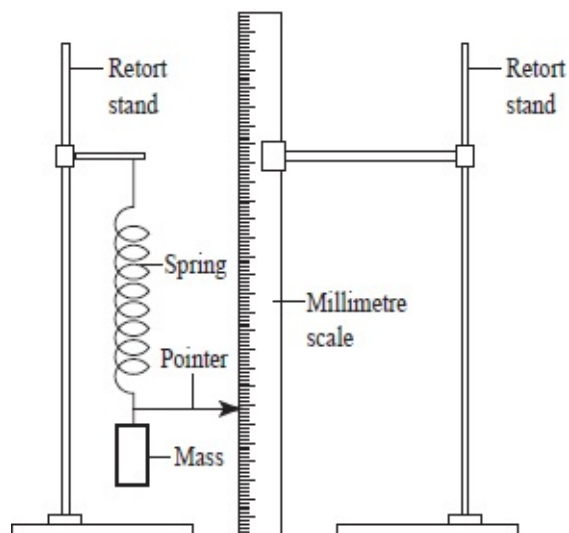

Fig. 3.4: A loaded steel spring
- Set up the apparatus as shown in figure 3.4.